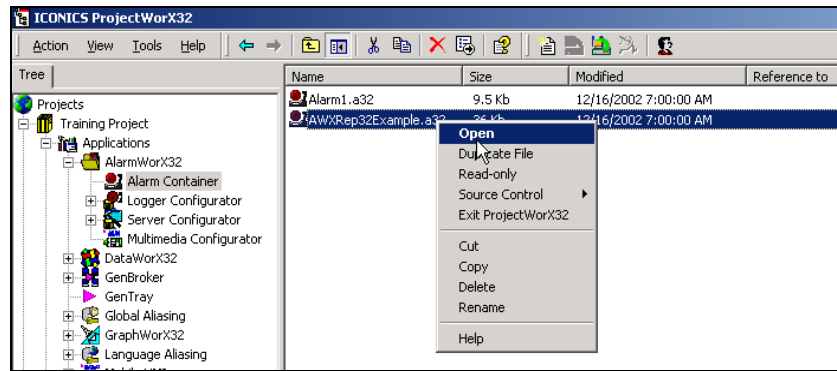

Figure 4.12
5. To launch the application file, either double-click the file or right-click the file and select **Open** from the pop-up menu, as shown in **Figure 4.12**.